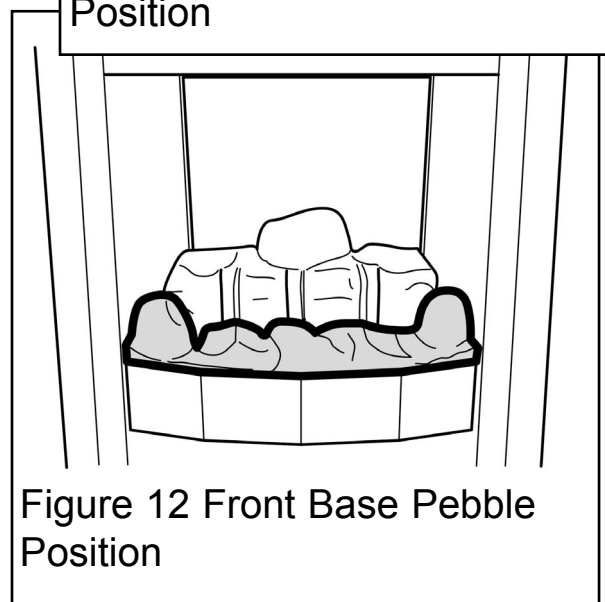

Figure 12 Front Base Pebble Position
2. Place the front base pebble in the firebox with its bottom front locating over the front rim of the firebox. Pull the pebble forward so that it locates immediately behind the front rim of the firebox. (See figure 12). The front base coal will touch the rear base coal as it is located.